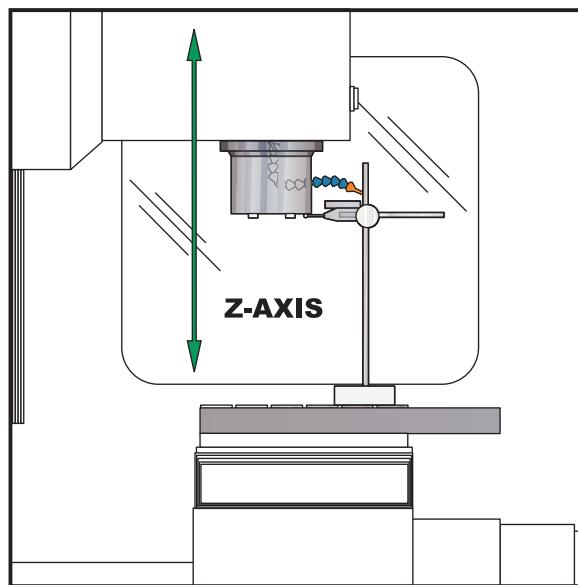

Figure 1-3 Dial indicator in position to check Z-axis.
- Set up a dial indicator and base on the mill table as shown in Fig. 1-3.